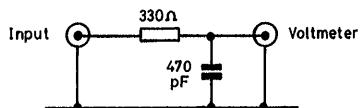

Fig. 4.0 Low-pass Filter
- 4.4 Low-pass Filter To reduce bandwidth of AC Voltmeter to 1MHz nominal for levels below 10mV. See Fig. 4.0 for suitable circuit